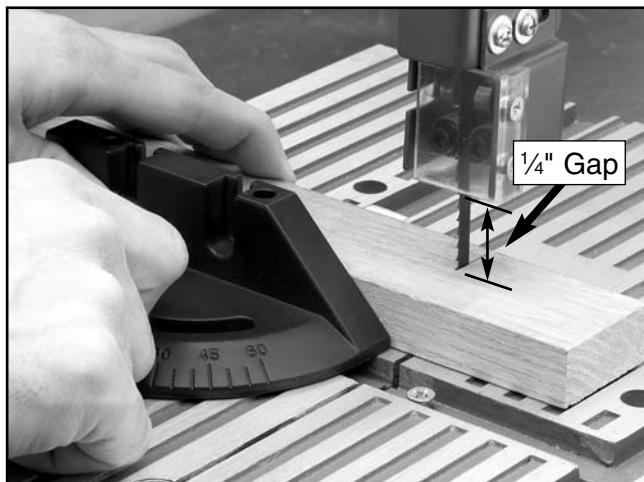

Figure 31. Crosscutting with a miter gauge.
2. Adjust the guide post/upper blade guide assembly to approximately $\frac{1}{4}$ " (**Figure 31**) above the top surface of the workpiece, or to where the miter body can move unimpeded.
4. While holding the workpiece against the miter gauge, feed the workpiece through the saw blade as shown in **Figure 31**.